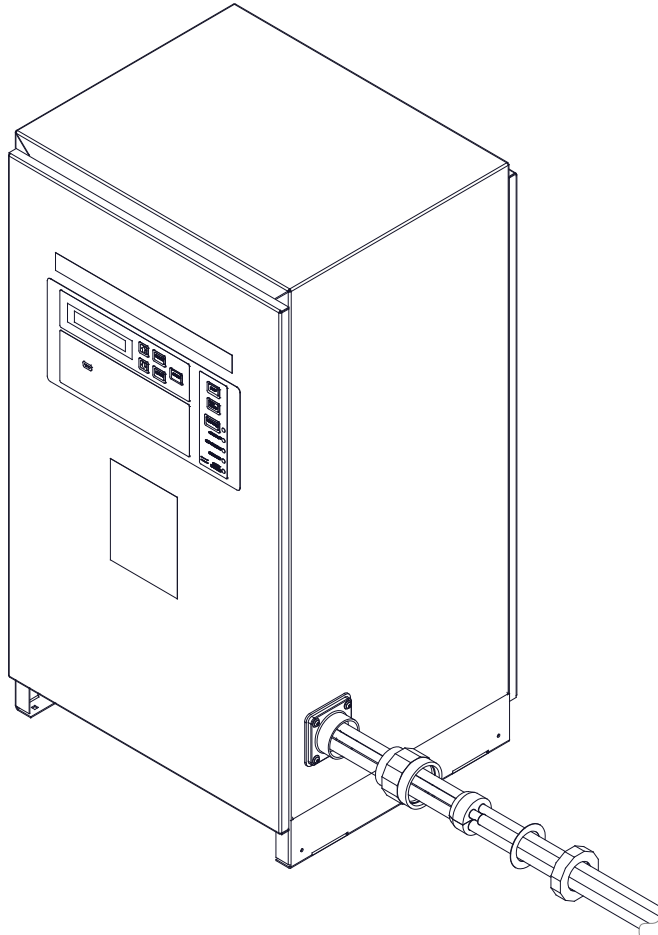

Figure 4: Grommet Installation
21. Push the Split Rubber Grommet (2) into the Hub Connector body, making sure that the two halves line up and there are no large gaps.
22. Slide the Washer (4) and Threaded Cap (1) up to the fitting and tighten until the Split Rubber Grommet (2) is compressed tightly. See Figure 4.